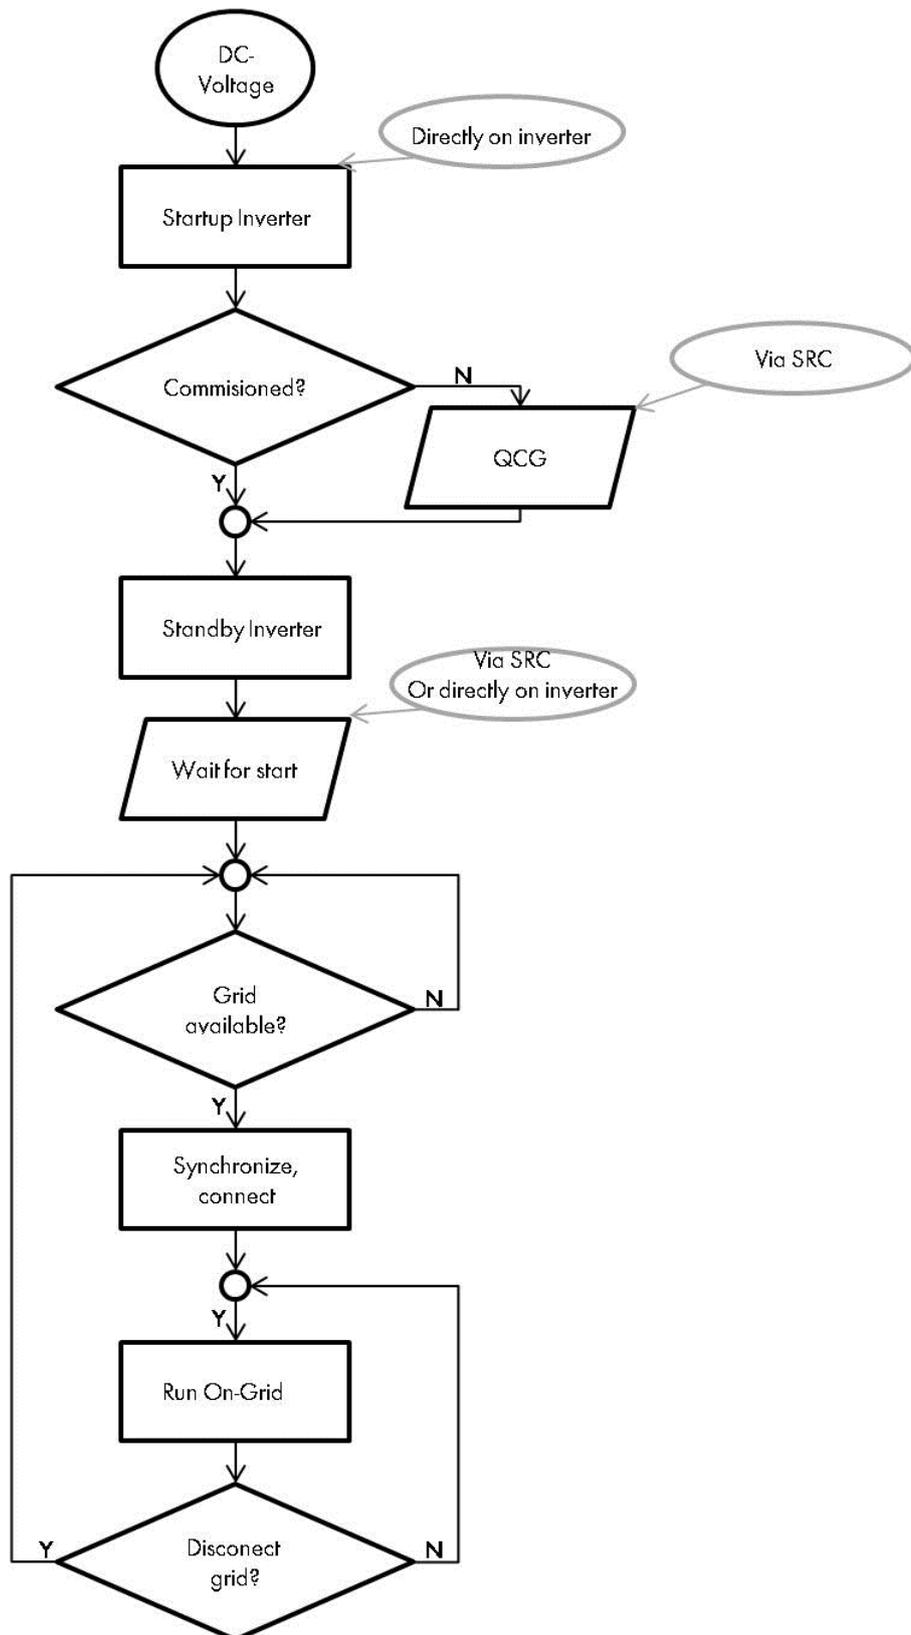

Figure 2: Start-up procedure
- The general description of the Start-up procedure is indicated in figure 2:
- After receiving Start command (refer to [1]) Sunny Island checks if the grid is available, voltage in appropriate range, synchronizes and connects to this grid and generates/provides an AC voltage (see figure 2).